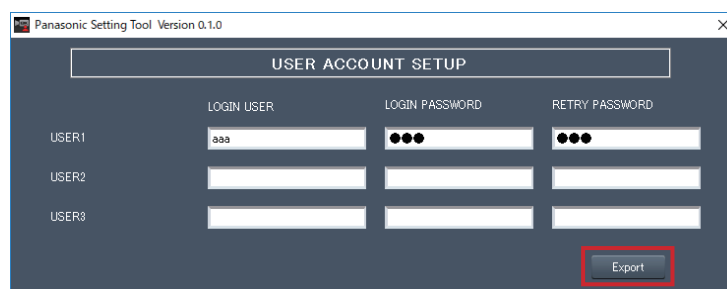

Fig. 1
You can register user accounts for a maximum of 3 people. (Fig.1)
3. Click the [Export] button. (Fig.1)